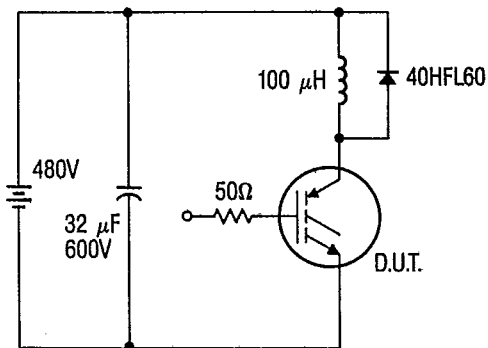

Fig. 5a — Clamped Inductive Load Test Circuit
② $V_{CC} = 80\% BV_{CES}$, $L = 100 \mu H$, $R_G = 50\Omega$ (see figure 5a)③ Pulse width 80 μS ; Duty Factor $\leq 0.1\%$ ④ Pulse width 5 μS , single shot⑤ K/W same as $^{\circ}C/W$ Fig. 1 — Typical Output Characteristics,